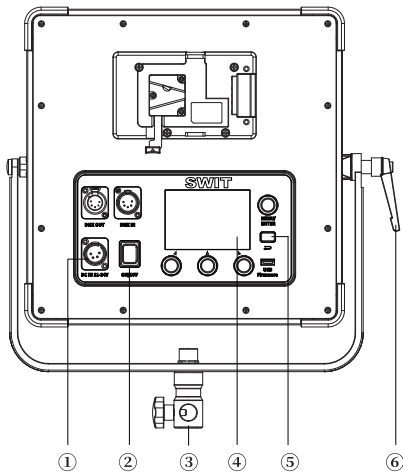

Fig.6 VANGO-70 Back View
- ▶ User can return back to Menu via "↶" button (Fig.6 ⑤);